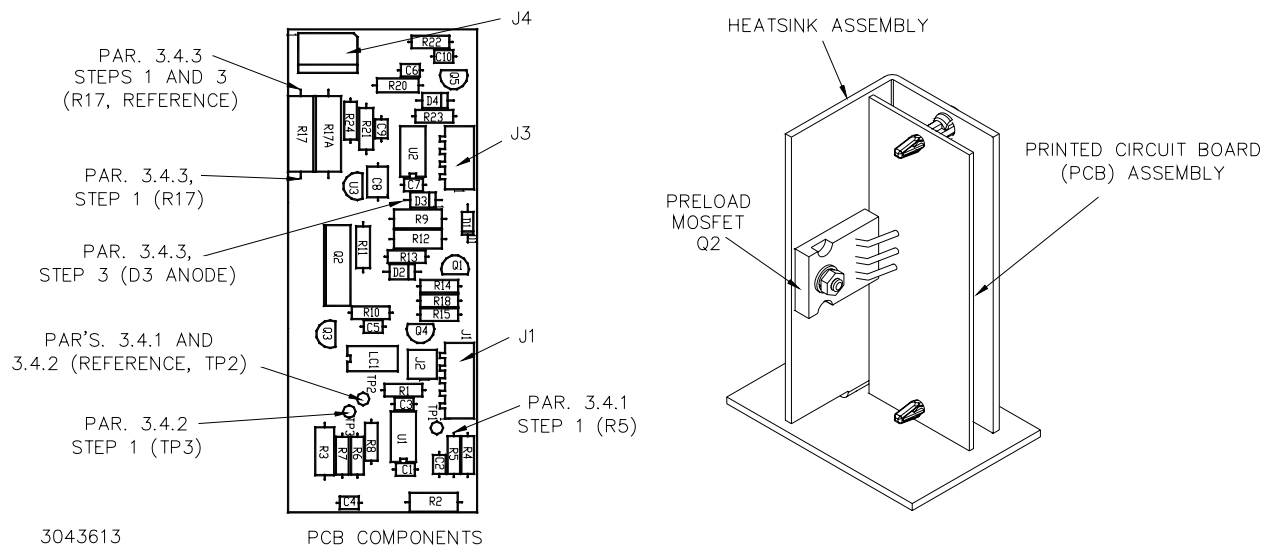
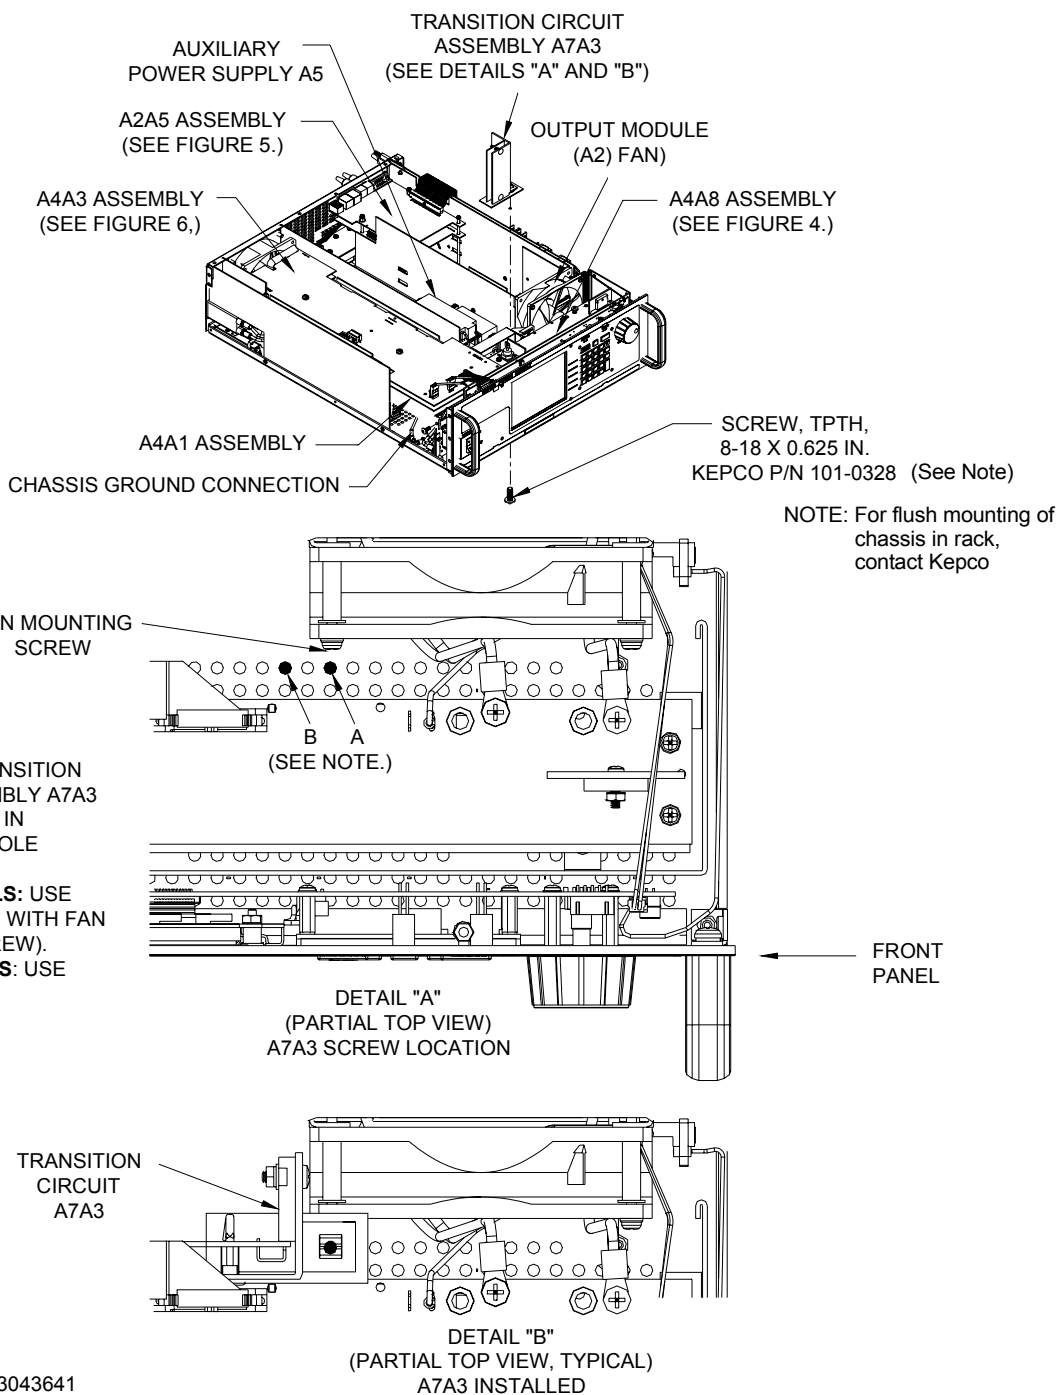
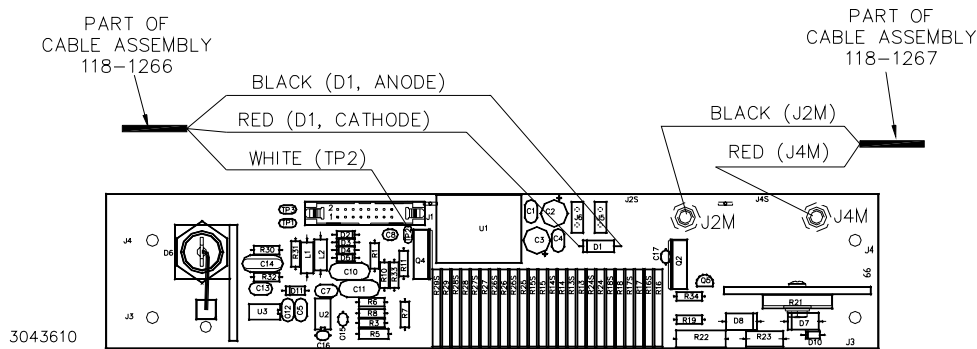
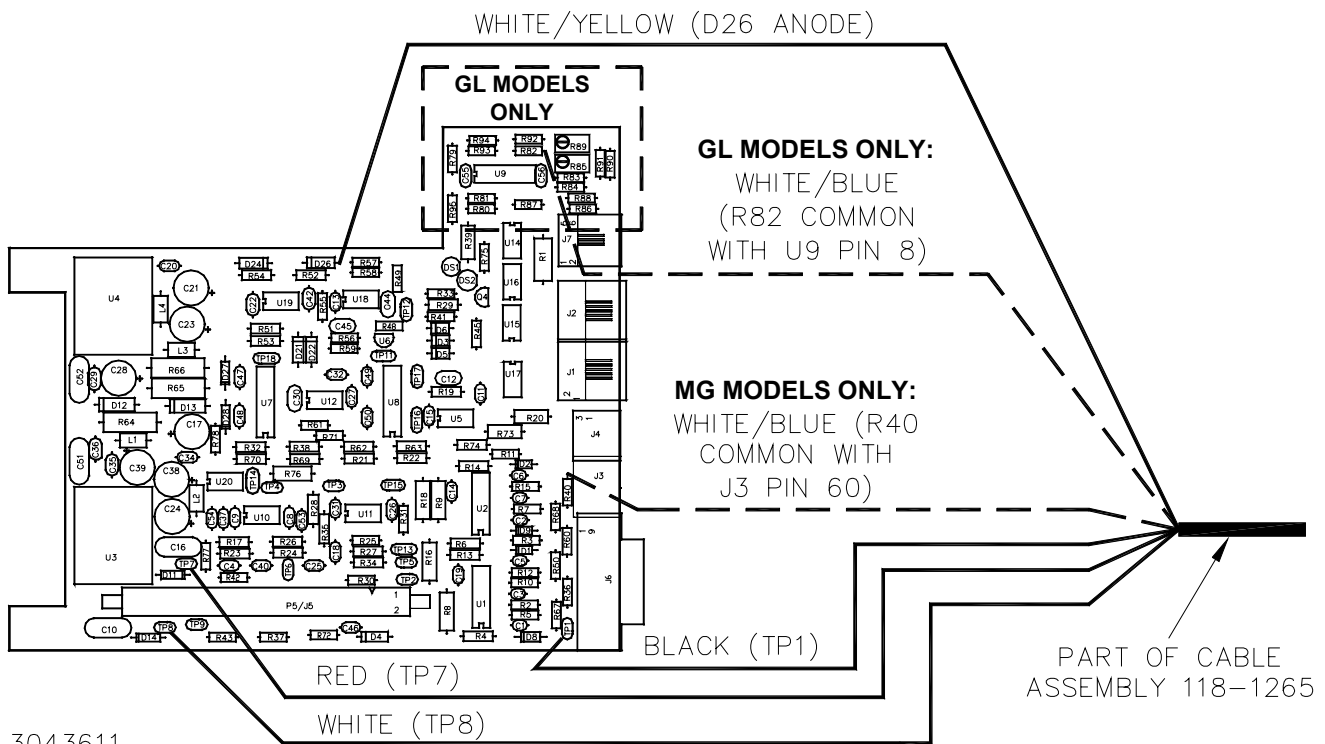

FIGURE 1. TRANSITION CIRCUIT ASSEMBLY, COMPONENT LOCATIONS
FIGURE 2. BOP 1KW COMPONENT LOCATIONS
FIGURE 3. A4A8 COMPONENT LOCATION/WIRING
FIGURE 4. A2A5 COMPONENT LOCATION
The Transition Circuit assembly Printed Circuit Board (PCB) is shipped assembled to the Heatsink with the pre-load-MOSFET mounted directly on the heatsink (Figure 1).
1. Install the Transition Circuit assembly as shown in Figure 2 using the ventilation hole identified in the figure and the screw provided in this kit. The screw is inserted up through the bottom of the chassis into the plastic grommet of the heatsink. The plastic grommet keeps the Transition Circuit assembly electrically isolated from the chassis.
2. Cable assembly P/N 118-1267 (provided in the Kit) has a 3-pin connector with two wires, each having non-isolated ring lugs. Remove the screws and lockwashers from J4M and J2M on A4A8, then add the wires from the cable assembly to the wires already connected to J4M and J2M as follows (see Figure 2 for the location of A4A8 in the chassis, Figure 3 for location of J4M and J2M and Figure 6 for cable routing):
3. Install the 4-pin cable assembly (P/N 118-1266) on Transition Circuit A7A3J3 of the PCB (see Figure 1). Route the cables as shown by Figure 6. This cable has three (3) unterminated wires. Determine the needed length, cut the wire and remove the insulated sleeving (approximately 0.15"), then solder each wire to the indicated point (see Figure 3 for A4A8 component locations and Figure 6 for cable routing):
4. Install the 5-pin cable assembly (P/N 118-1265) on Transition Circuit A7A3J1 (see Figure 1) of the PCB. Route the cables as shown by Figure 6. This cable assembly has a 5-pin connector with five (5) unterminated wires. Determine the needed length, cut the wire and remove the insulated sleeving (approximately 0.15"), then solder each wire to the indicated point of assembly A2A5 (see Figure 4 for location of wire attachment points and Figure 6 for cable routing):
1. With the unit turned off, connect a DVM (set for DC voltage measurements) to Transition Circuit A7A3R5 (end closest to A7A3J1; see Figure 1), referenced to TP2.